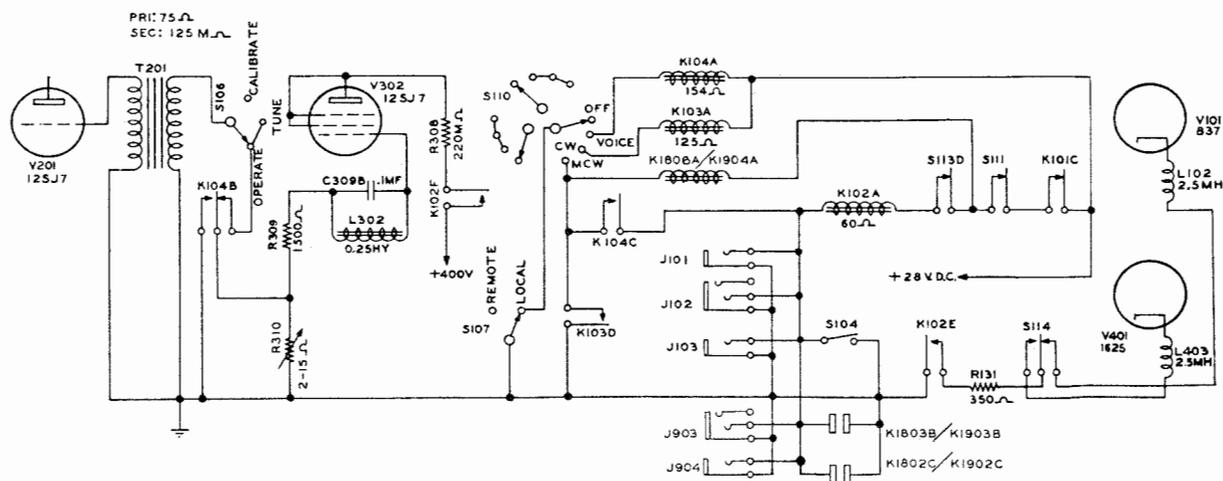

Fig. 15 Emission Selection and Carrier Control Circuits
2.5.1. See Figure 15. The switch S110 is a combination transmitter ON-OFF switch and EMISSION selector switch. Selecting VOICE emission by the operation of S110 operates relay K104. Relay contacts K104B disconnect the output of the MCW oscillator, V302, from the input to the speech amplifier. Relay contacts K104C connect the coil of relay K1806/K1904 to the emission control circuits of J101, J102, J103, the TEST switch, S104, and the remote circuits, J903, J904, K1803B/K1903B and K1802C/K1902C. Selecting CW emission completes the circuit necessary for